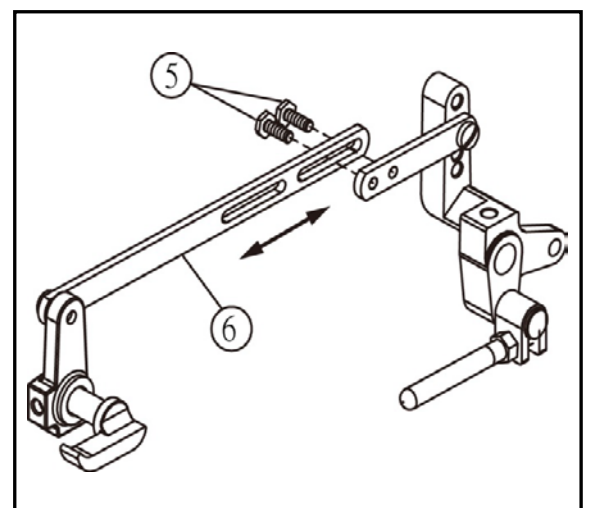

Fig. 7
- (2) Loosen the screw ⑤ of the presser foot lifter lever link (long).(Fig. 7)
- (3) Move the presser foot lifter lever link (long) ⑥ right or left to adjust the clearance.(Fig. 7)